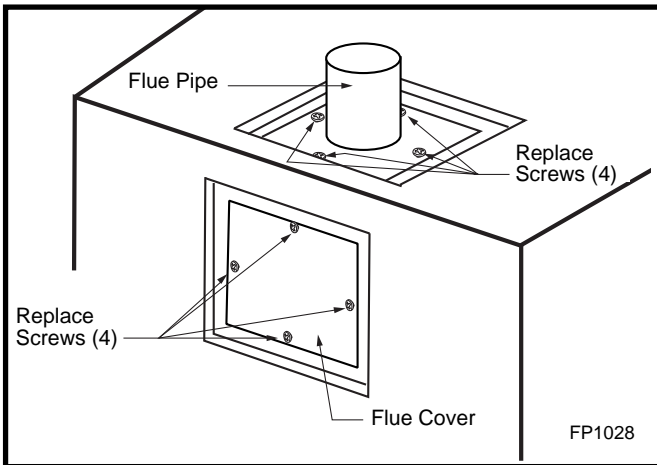

Fig. 13 Replacing flue cover and flue pipe.
5. Secure flue cover to back of flue outlet. Be sure to replace gasket. (Fig. 13)
6. Install flue pipe and gasket removed in step 4 to top of unit with four (4) screws. Be sure to replace gasket. (Fig. 13)